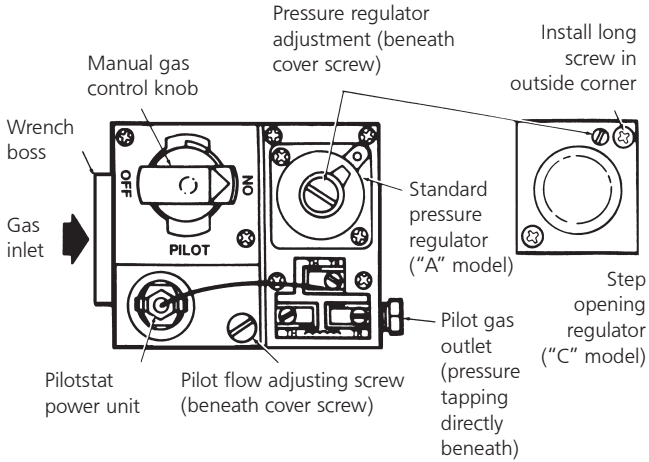

Figure 8. Top view of standard capacity gas control.
- Remove pilot adjustment cover screw. Refer to Figure 8.
| Pilot cannot be ignited | Blocked pilot orifice Gas cock not in position Pilot gas flow adjustment screw may be closed | Replace Gas control knob must be turned to pilot and held depressed Open and adjust (see Figure 8) |